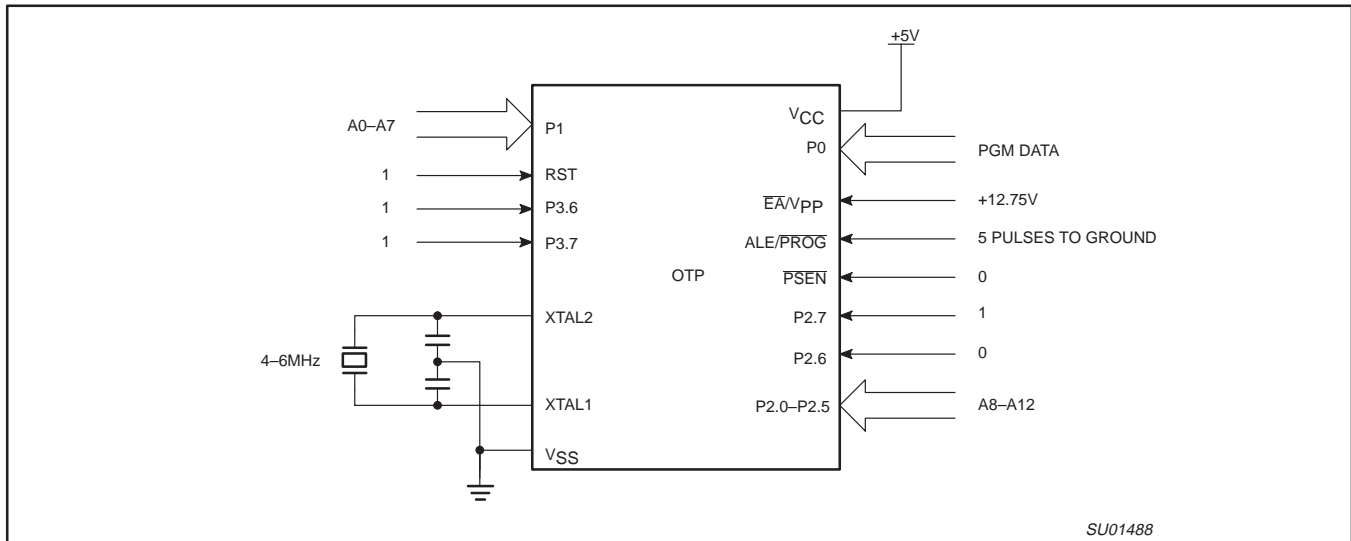
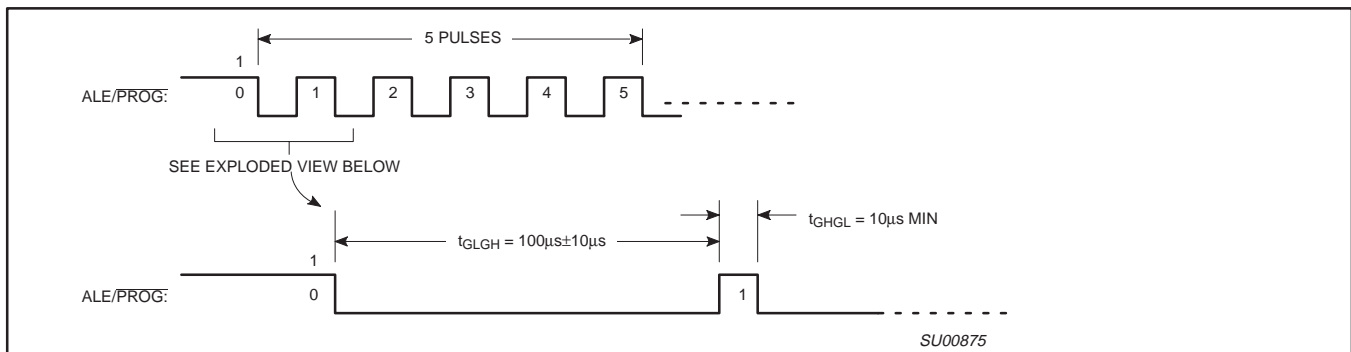
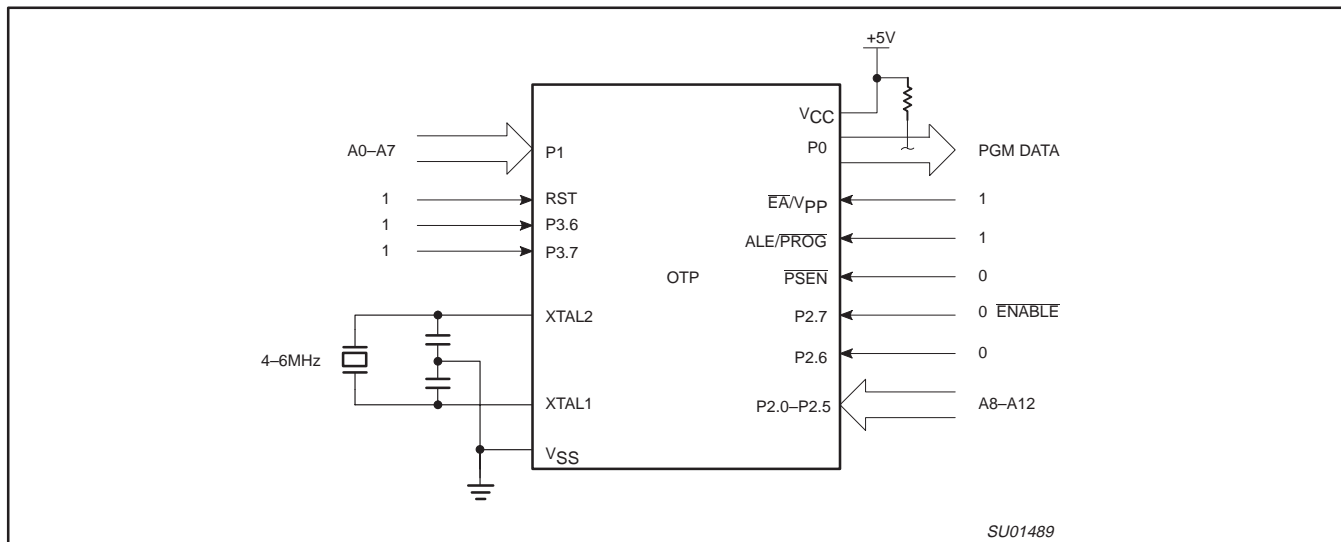

Figure 40. Programming Configuration
Figure 41. PROG Waveform
Figure 42. Program Verification
Table 9 shows the logic levels for reading the signature byte, and for programming the program memory, the encryption table, and the security bits. The circuit configuration and waveforms for quick-pulse programming are shown in Figures 40 and 41. Figure 42 shows the circuit configuration for normal program memory verification.
The setup for microcontroller quick-pulse programming is shown in Figure 40. Note that the device is running with a 4 to 6 MHz oscillator. The reason the oscillator needs to be running is that the device is executing internal address and program data transfers.
The address of the EPROM location to be programmed is applied to ports 1 and 2, as shown in Figure 40. The code byte to be programmed into that location is applied to port 0. RST, PSEN and pins of ports 2 and 3 specified in Table 9 are held at the 'Program Code Data' levels indicated in Table 9. The ALE/PROG is pulsed low 5 times as shown in Figure 41.
If security bits 2 and 3 have not been programmed, the on-chip program memory can be read out for program verification. The address of the program memory locations to be read is applied to ports 1 and 2 as shown in Figure 42. The other pins are held at the 'Verify Code Data' levels indicated in Table 9. The contents of the address location will be emitted on port 0. External pull-ups are required on port 0 for this operation.
- * FOR PROGRAMMING CONFIGURATION SEE FIGURE 40.
FOR VERIFICATION CONDITIONS SEE FIGURE 42.